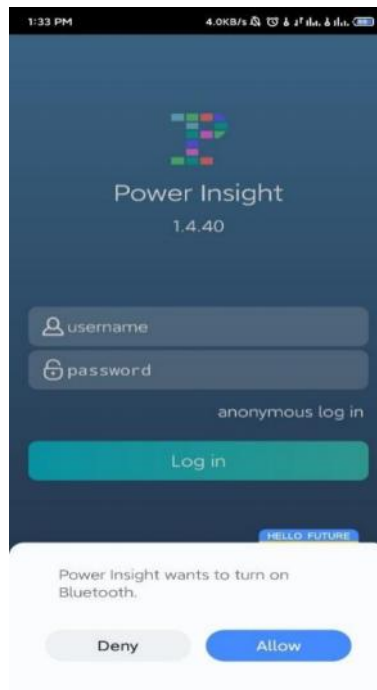

Figure 5-4 Bluetooth connection
- (1) Turn on Bluetooth on the mobile phone.
- (2) If you open the app without turning on Bluetooth, the system prompts that PowerInsight intends to enable Bluetooth. Select **Allow**, as shown in Figure 5-4.